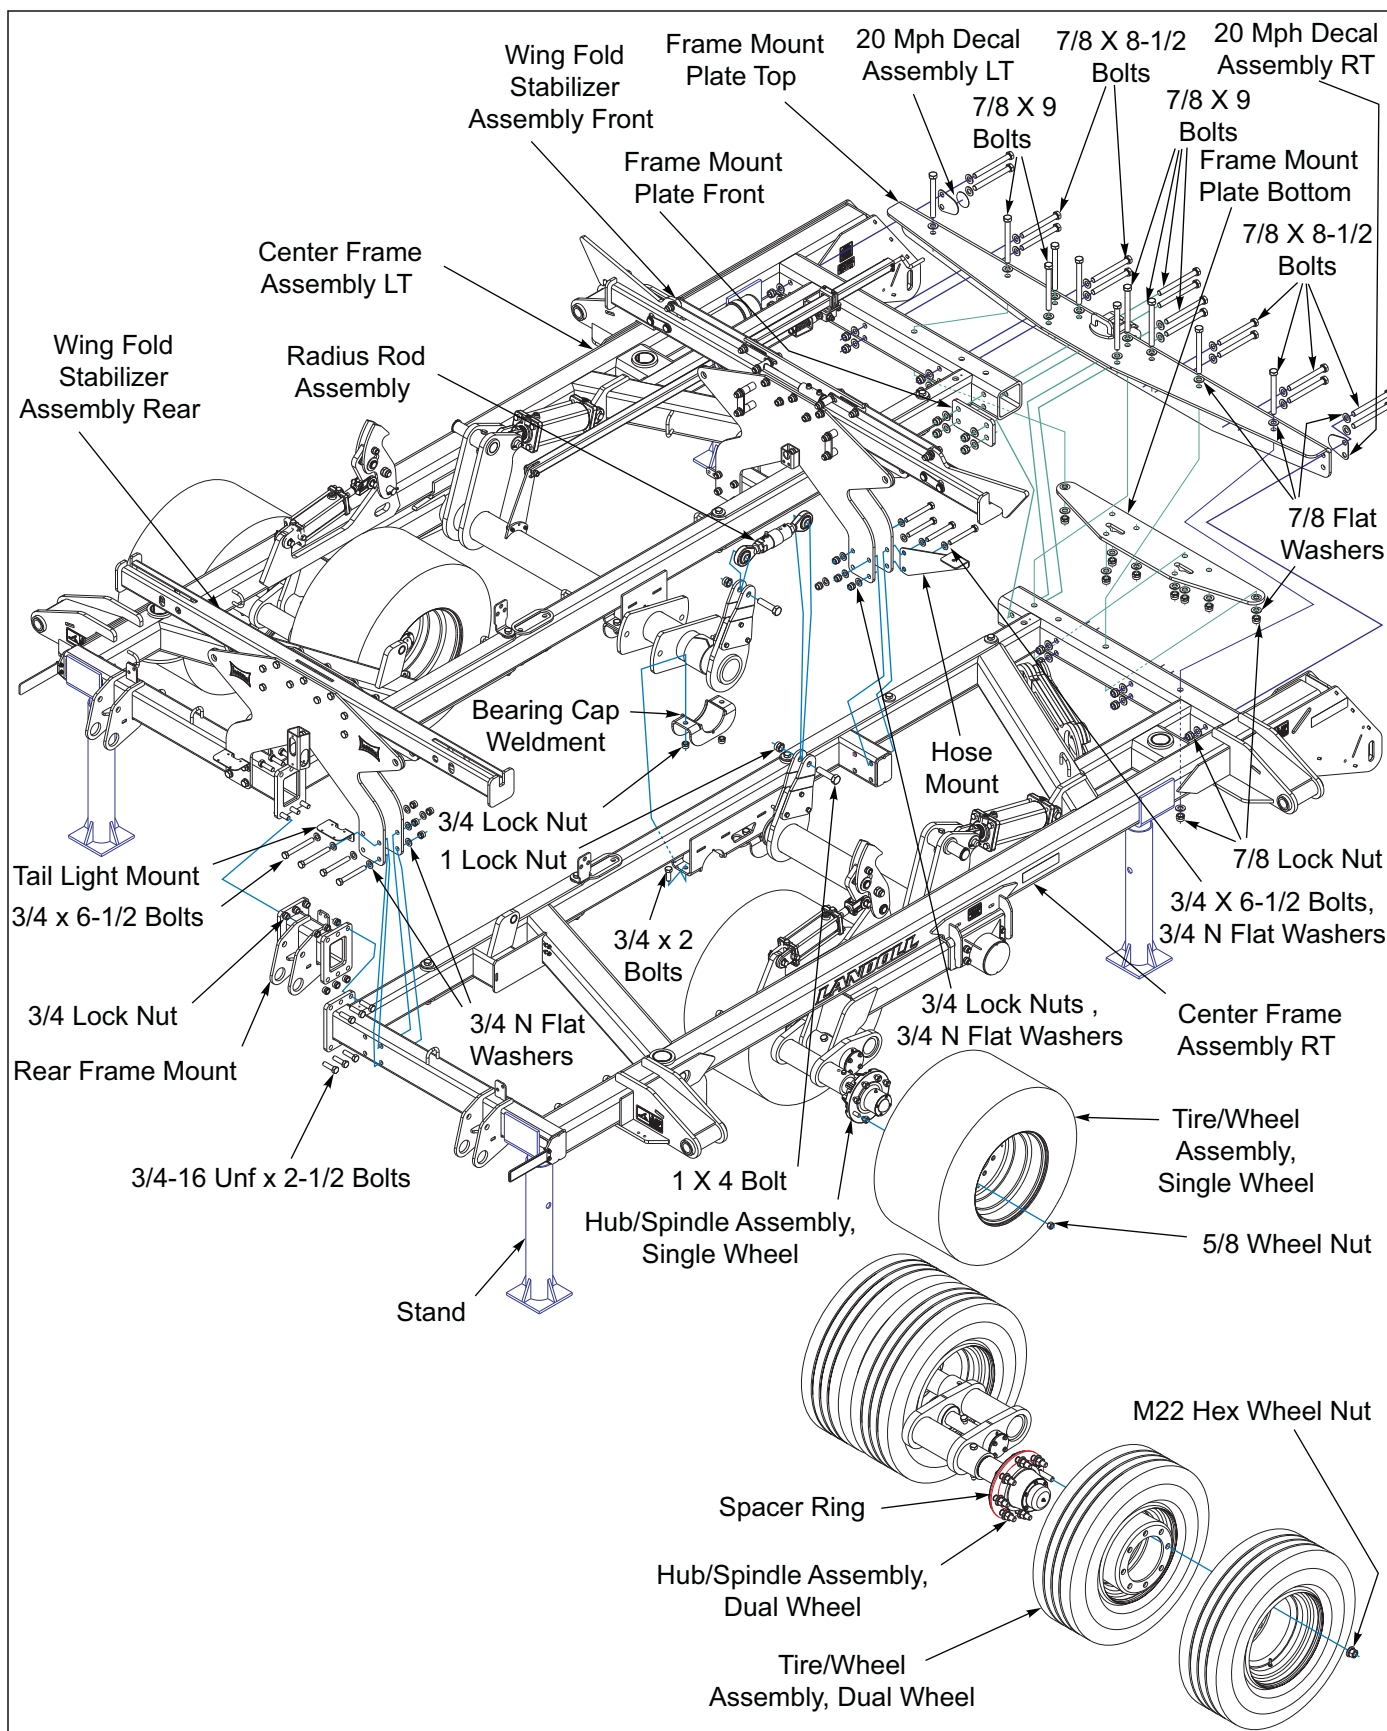

Figure 3-2: Center Frame Assembly 7531-32'-35'
2. Models 7531-32'-35', position the RT & LT center frame assemblies on stands approximately 36" high, *See Figure 3-2.*